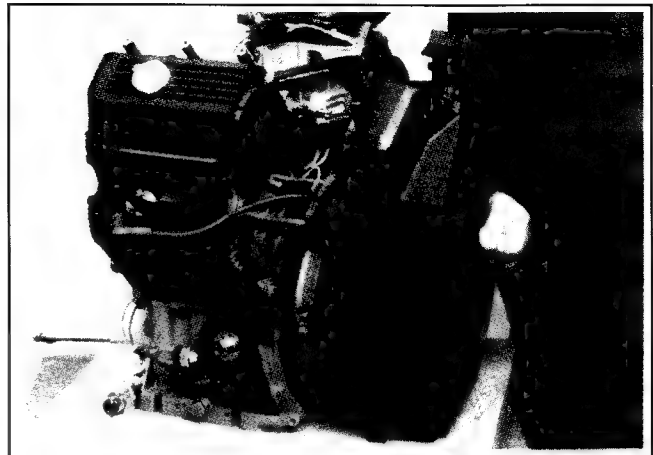

Figure 11-50. Installing Blower Housing.
1. Install the blower housing on the engine. See Figure 11-50.